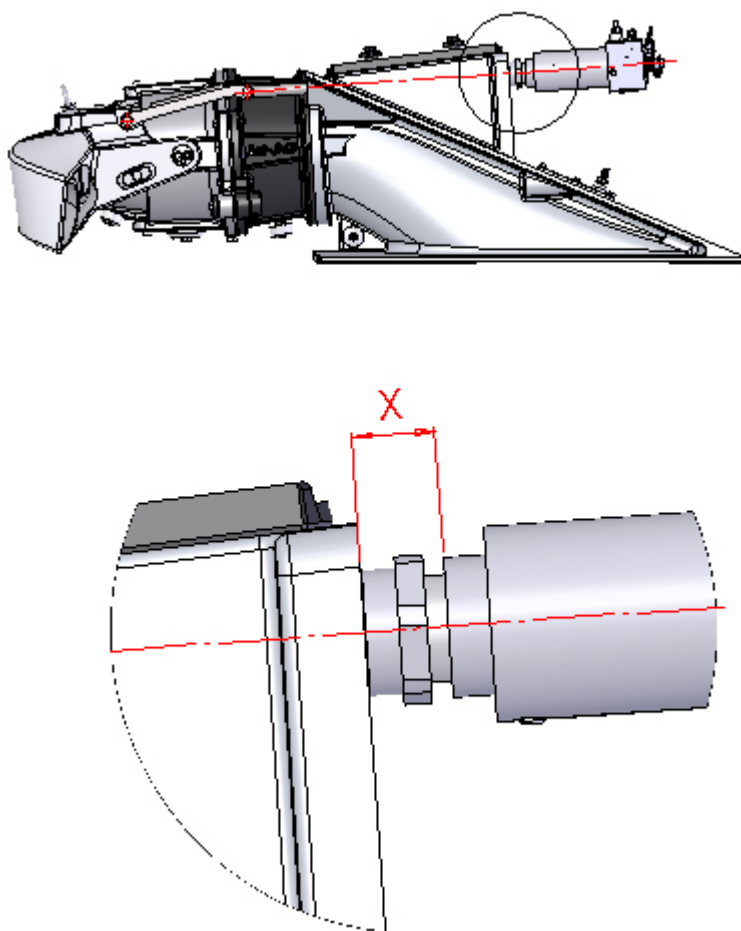
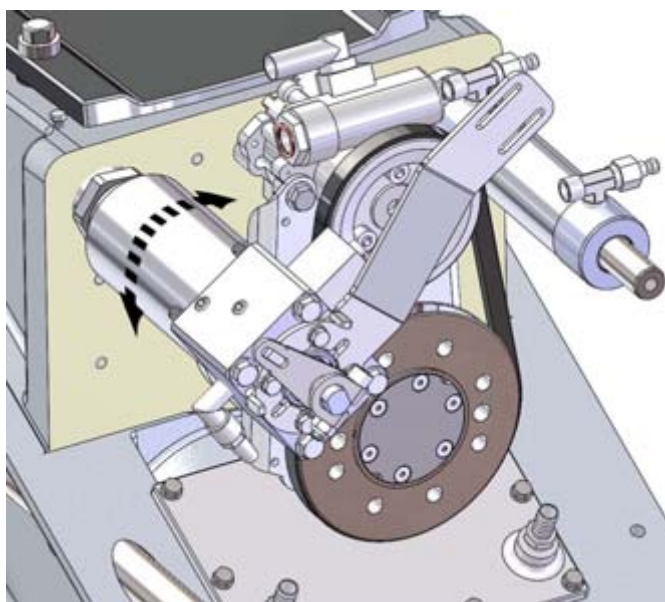

Figure 59. Cylinder dimensions
Figure 60. Adjusting the cylinder's position
4. When the correct measurement $X \sim 31$ mm is met (figure 59), apply some sealing compound (such as Sikaflex 291i) on the thread, and tighten the nut. You can turn the cylinder slightly if you want the cable clamp to point directly in the cable's direction of entry (figure 60).